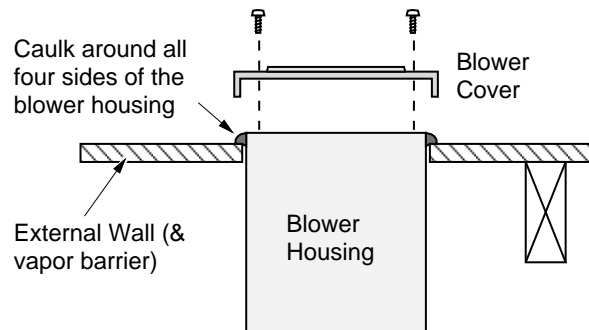

Figure 13
- The blower, if located on an external wall, must be weatherproofed (see Figure 13). Remove the blower cover and install the blower. Apply caulk around the perimeter of the blower housing where it contacts the external wall and vapor barrier (apply sparingly). Replace the blower cover.